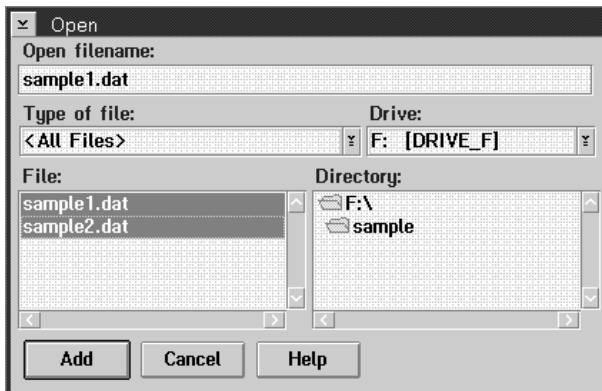

Figure 60. Open window
- 11 In the Files page, choose the files to be included in the software object. Click on the **Find** push button and the Open window is displayed, as shown in Figure 60.